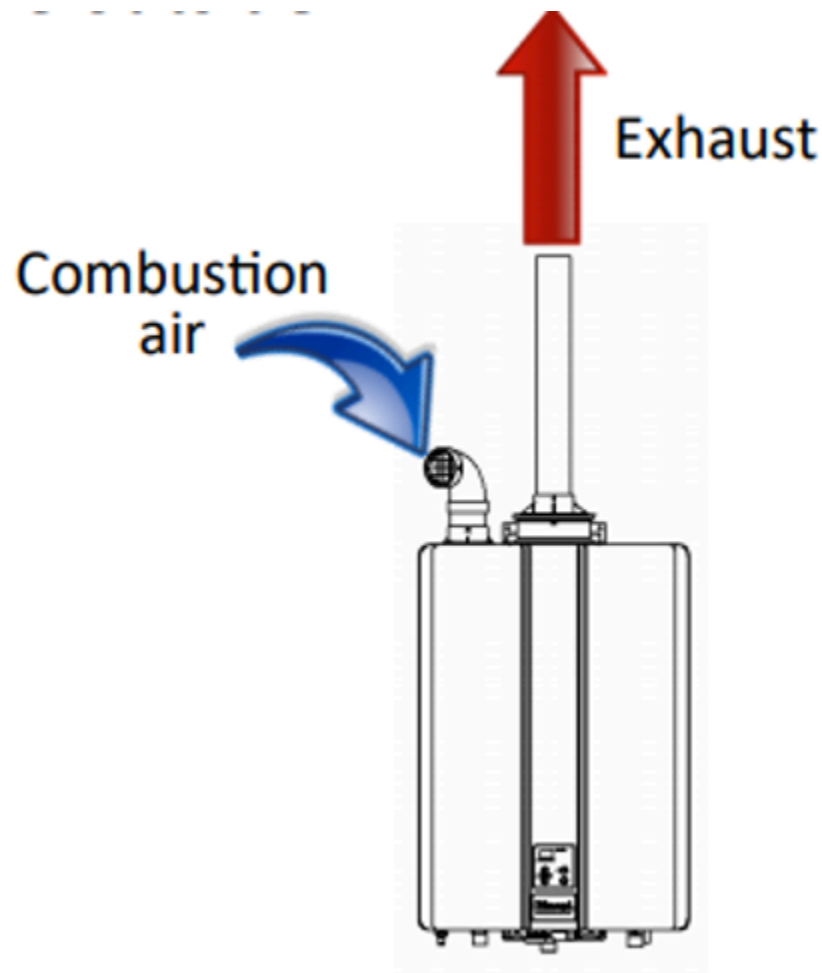

Figure 3. Room air dependent direct vent appliance
Regardless of the category type, if an appliance utilizes indoor combustion air it is not considered a direct vent appliance. For example some direct vent appliances may also be installed as room air dependent systems (Figure 3), in this case the room air supply needs to conform to the manufacturer's instructions as well as to the gas code.
- Figure 3. “Room air dependant direct vent appliance (<https://gas-geysers-johannesburg.co.za/rinnai-technical-page/>)” from Rinnai is used for educational purposes under the basis of fair dealing.